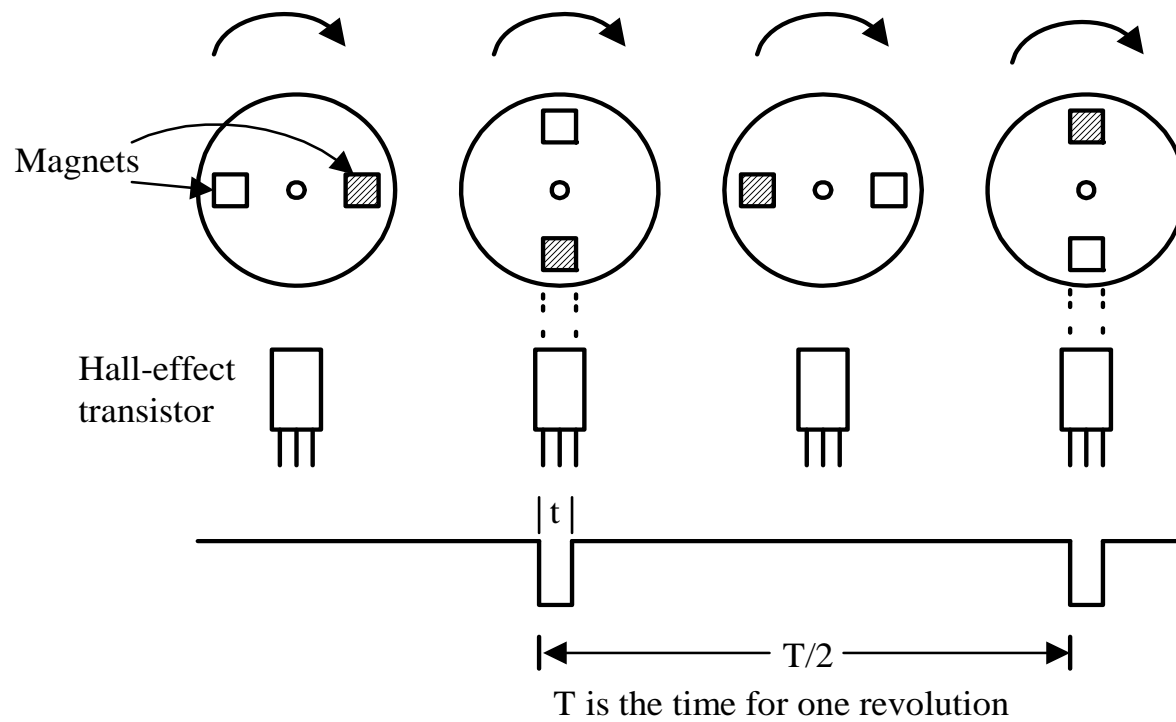

Figure 8.28 The output waveform of the Hall-effect transistor
- The attachment of the Hall-effect transistors is shown in Figure 8.28.